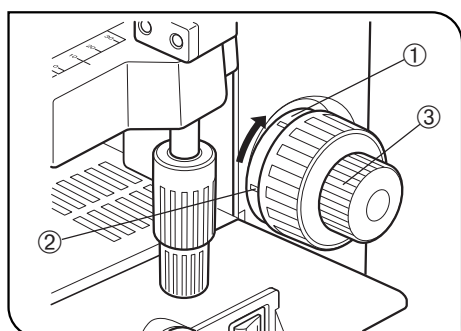

Fig. 8
**Adjusting the Tension of the Coarse Adjustment Knob (Fig. 8)**
1. The tension of the coarse focus adjustment knob has been designed adjustable with a ring. Insert the tip of a large flat-blade screwdriver into the groove ② on the tension adjustment ring ① and rotate the ring. Rotating it clockwise (in the direction of the arrow) increases the tension and counterclockwise decreases the tension.
2. If the stage descends on its own or if the specimen gets out of focus quickly even when it is brought into focus using the fine adjustment knob, it means that the tension of the coarse adjustment knob is too low. Turn the ring ① in the direction of the arrow to increase the tension.